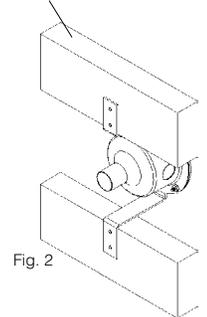

Fig. 2
3. Attach the assembly by nailing or screwing to blocking (by others) as shown in Fig. 2. The front of the backbox should measure 1/2" out from the face of the blocking.